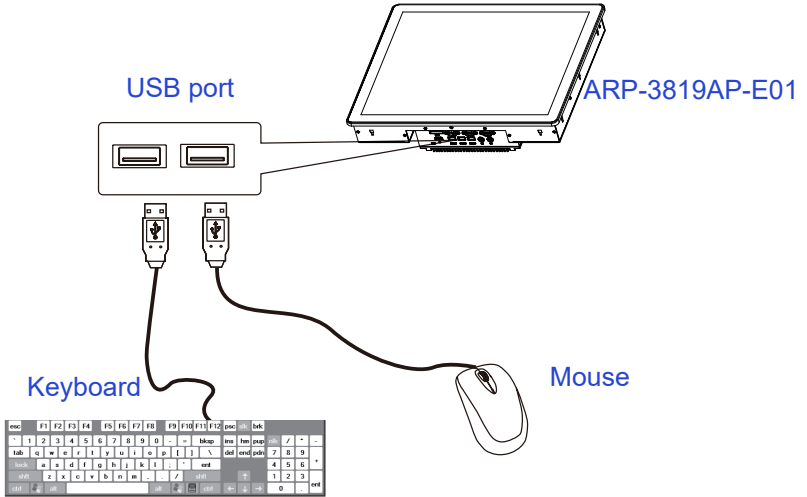

Figure 1
- Insert a USB keyboard and a USB mouse(not supplied) to ARP-3800AP-E01 Series touch panel computer for controlling on the computer(Figure 1). You can also insert a PS2 type keyboard or a PS2 type mouse(not supplied) to your computer(Figure 2).